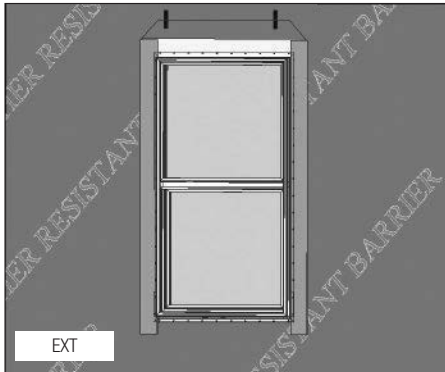

FIG. 12
- Cut and apply side flashing. Side flashing should run from the bottom of the sill flashing to 8" above the rough opening. (Fig. 12)